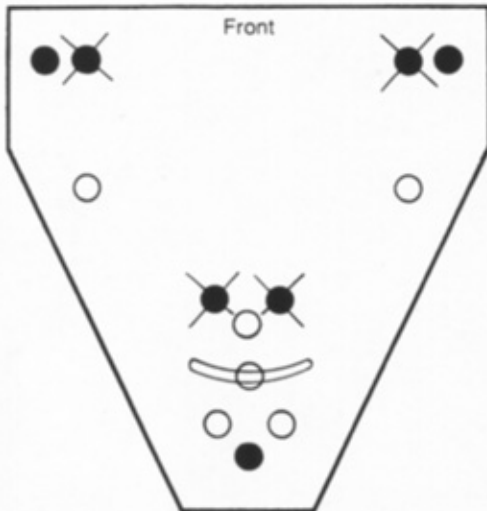

FIGURE 2
10. Place the horn and mounting assembly on top of the TL606DW and attach in the desired position. Details of the 3 possible mounting positions can be seen in Figures 2, 3 and 4.